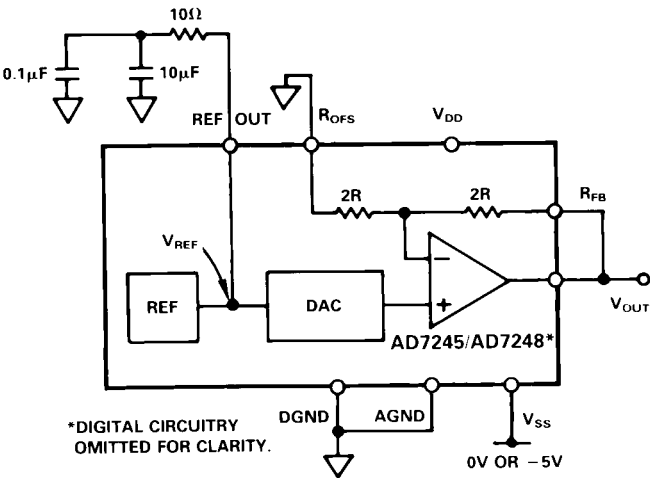

Figure 8. Unipolar (0 to +10V) Configuration
*REFERENCE DECOUPLING COMPONENTS AS PER FIGURE 8
The first of the configurations provides an output voltage range of 0V to +10V. This is achieved by connecting the bipolar offset resistor, R_{OFFS} , to AGND and connecting R_{FB} to V_{OUT} . In this configuration the AD7245/AD7248 can be operated single supply ($V_{\text{SS}} = 0\text{V} = \text{AGND}$). If dual supply performance is required, a V_{SS} of -5V should be applied. Note that a V_{SS} supply more negative than -5V should not be applied to the AD7245/AD7248 when it is configured for a 0 to +10V output range. Figure 8 shows the connection diagram for unipolar operation while the table for output voltage versus the digital code in the DAC latch is shown in Table III.